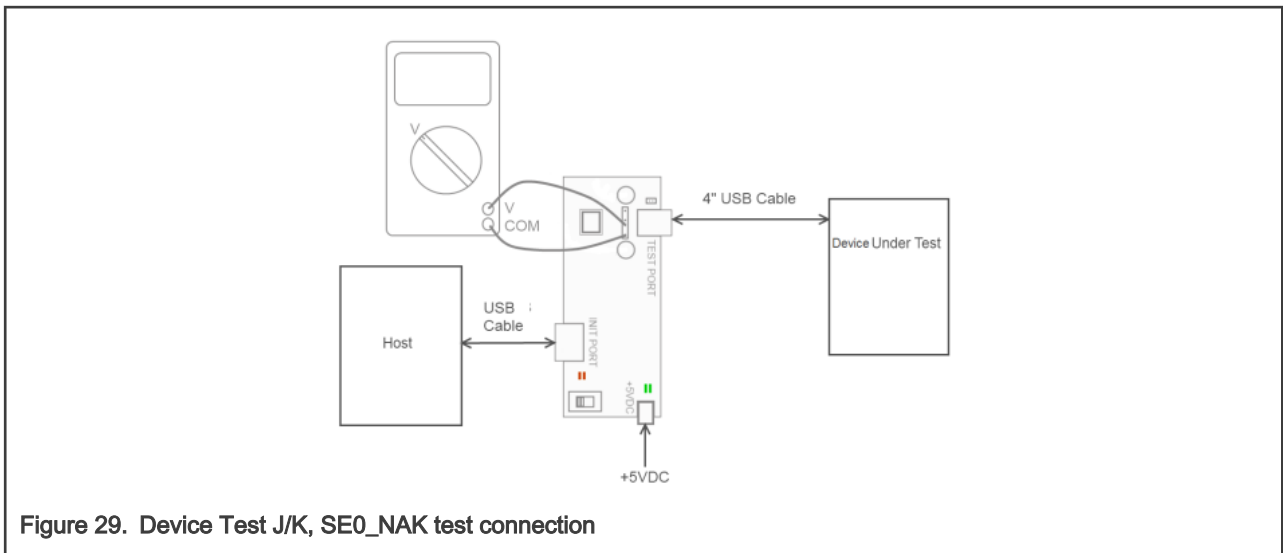

Figure 29. Device Test J/K, SE0\_NAK test connection
- As shown in Figure 29, connect the test equipment and place the switch in the test switch to **OFF** position. Verify that the green power LED is lit and the yellow test LED is OFF.